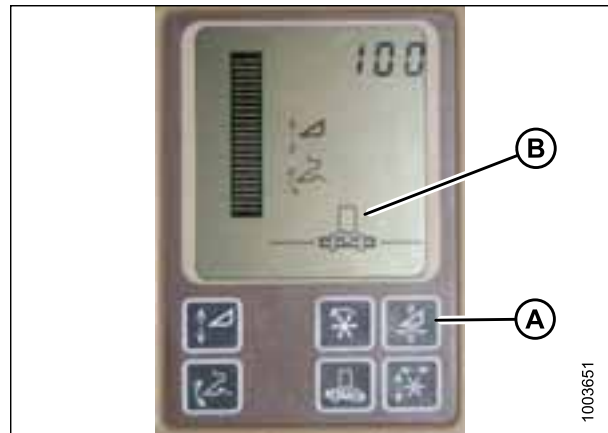

Figure 4.68: John Deere Combine Display
Do **NOT** use active header float function (A) in combination with MacDon auto header height control (AHHC)—the two systems will counteract one another. The header symbol (B) on display should **NOT** have a wavy line under it and should appear exactly as shown on Active Header Control Display in Figure 4.68, page 126.